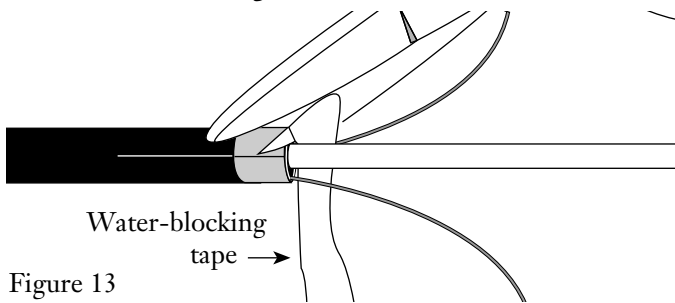

Figure 13
4.18 Cut away the water-blocking tape flush at the tape mark with scissors (Figure 13).